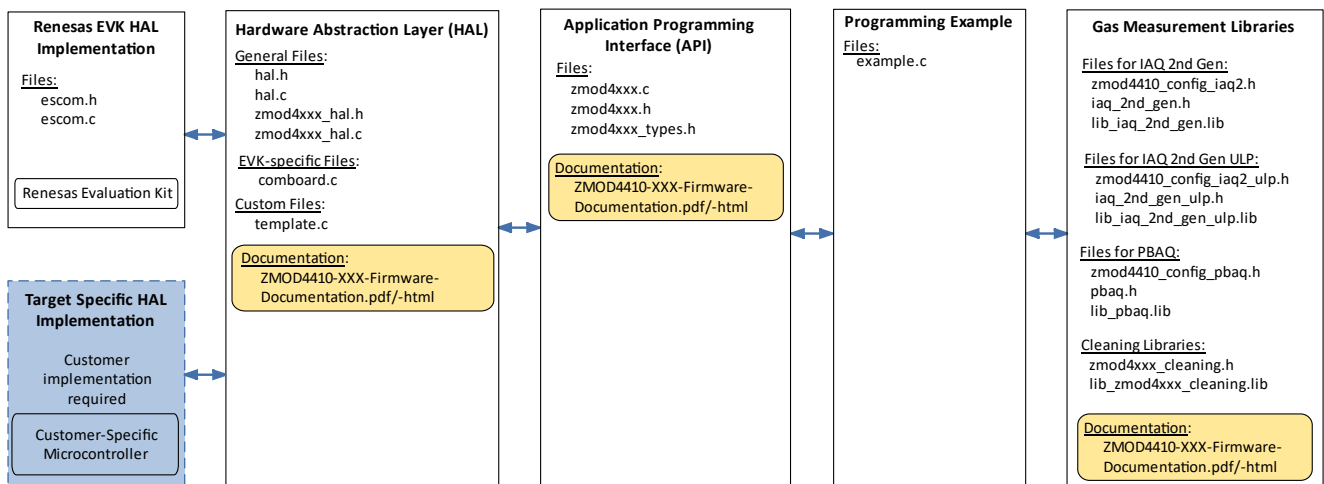

Figure 1. File Overview for ZMOD4410 Firmware
To operate the ZMOD4410 and use its full functionality, the following five code blocks are required (see Figure 1):
1. The “Target Specific I2C and Low-Level Functions” block is the hardware-specific implementation of the I2C interface. This block contains read and write functions to communicate with the ZMOD4410 and a delay function. For the use with Renesas EVKs, there are implementations for ESCom and HiCom boards provided with the ZMOD4410 firmware packages. Using the user’s own target hardware requires implementing the user’s target-specific I2C and low-level functions (this is highlighted in light blue in Figure 1).